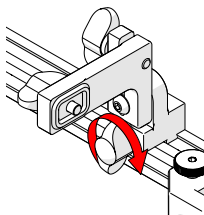

Fig. 21 - Tighten bar clamp knob
4. Tighten the bar clamp knob (Fig. 21).